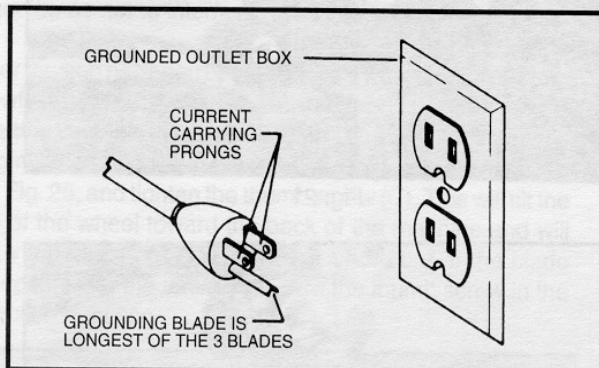

Fig. 17
**CAUTION: This tool must be grounded while in use, to protect the operator from electric shock.** The motor is shipped wired for 115 Volt, Single Phase and is equipped with an approved 3-conductor cord and 3-prong grounding type plug to fit the proper grounding type receptacle, as shown in Fig. 17. The green conductor in the cord is the grounding wire. **CAUTION: Never connect the green wire to a live terminal.**